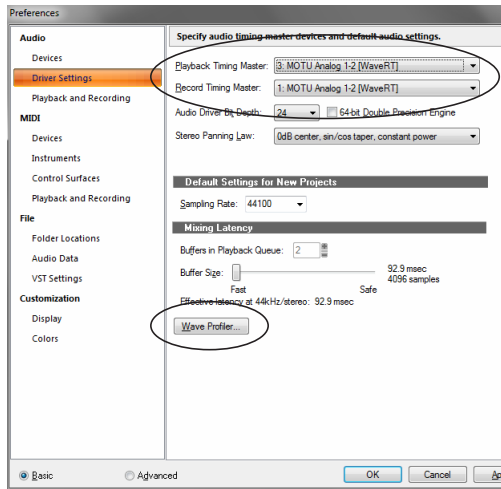

Figure 7-9: Make sure you have chosen a Track16 input and output for the playback and recording timing master settings.
**2** Choose an Track16 input and output for recording and playback timing as shown below in Figure 7-9. It doesn't matter which input or output you choose.